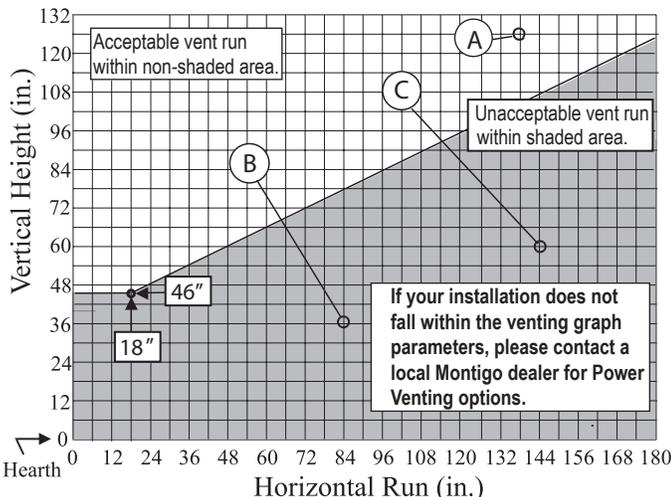

Figure 12. H38C* or HL38C* Top Vent Venting Graph for wall mounted terminations.
*** Note:** Elbow must be installed directly off the back of the fireplace. If additional horizontal distance is required the vent run must be increased a 2:1 Horizontal to Vertical ratio. See vent graph, Figure 12 or 13 for rear vented, wall mounted terminations
- Once the proposed venting layout has been determined refer to either Figure 12, 12a, 14, or 14a to ensure the layout is acceptable.
- Venting runs *must* fall within the limits set by the venting graphs, see Figure 12 or 12a.
Measure the vertical height from the fireplace hearth to the centre of the termination and the horizontal run from the fireplace flue collar to the wall flange of the termination. Plot on the Venting Graph Figure 12 or 12a with an 'X'.
Figure 13a. H38C* or HL38C* Top Vented, wall mounted installation with one 90° bend. The vent run must comply with Venting Graph for Top vent, wall mounted terminations, Figure 12.
Figure 13b. H38C*, HL38C* or HP38C* Top Vented, wall mounted Multi-elbow installation. See Venting Graph for Top vent, wall mounted terminations, Figure 12 or 12a.
Figure 13c. H38C*, HL38C* or HP38C* Top Vented, wall mounted Retracted Multi-elbow installation. See Venting Graph for Top vent, wall mounted terminations, Figure 12 or 12a.